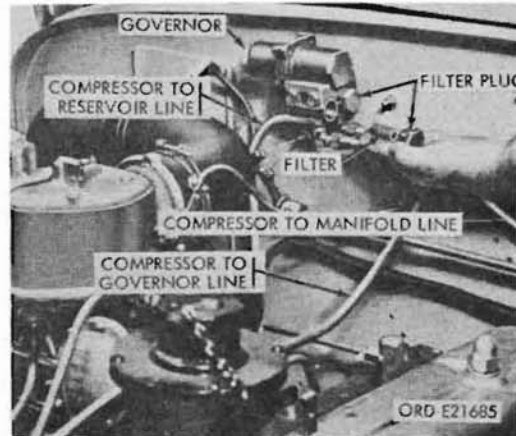

Figure 243. Type D air governor - installed
b. Air Governor Type D (Fig. 243).
- (c) Position the governor with the filter plugs toward the right of the vehicle as shown in figure 243. Connect the compression-to-governor line to the elbow and the governor-to-manifold line and governor-to-reservoir line to the governor. Do not tighten the nuts.
- (d) Place the governor against the firewall as indicated in figure 243. Bend the governor-to-reservoir line to clear the hand throttle control wire and bend the compressor-to-governor line to clear the engine. Mark on the firewall the location of the two new governor bolt holes.